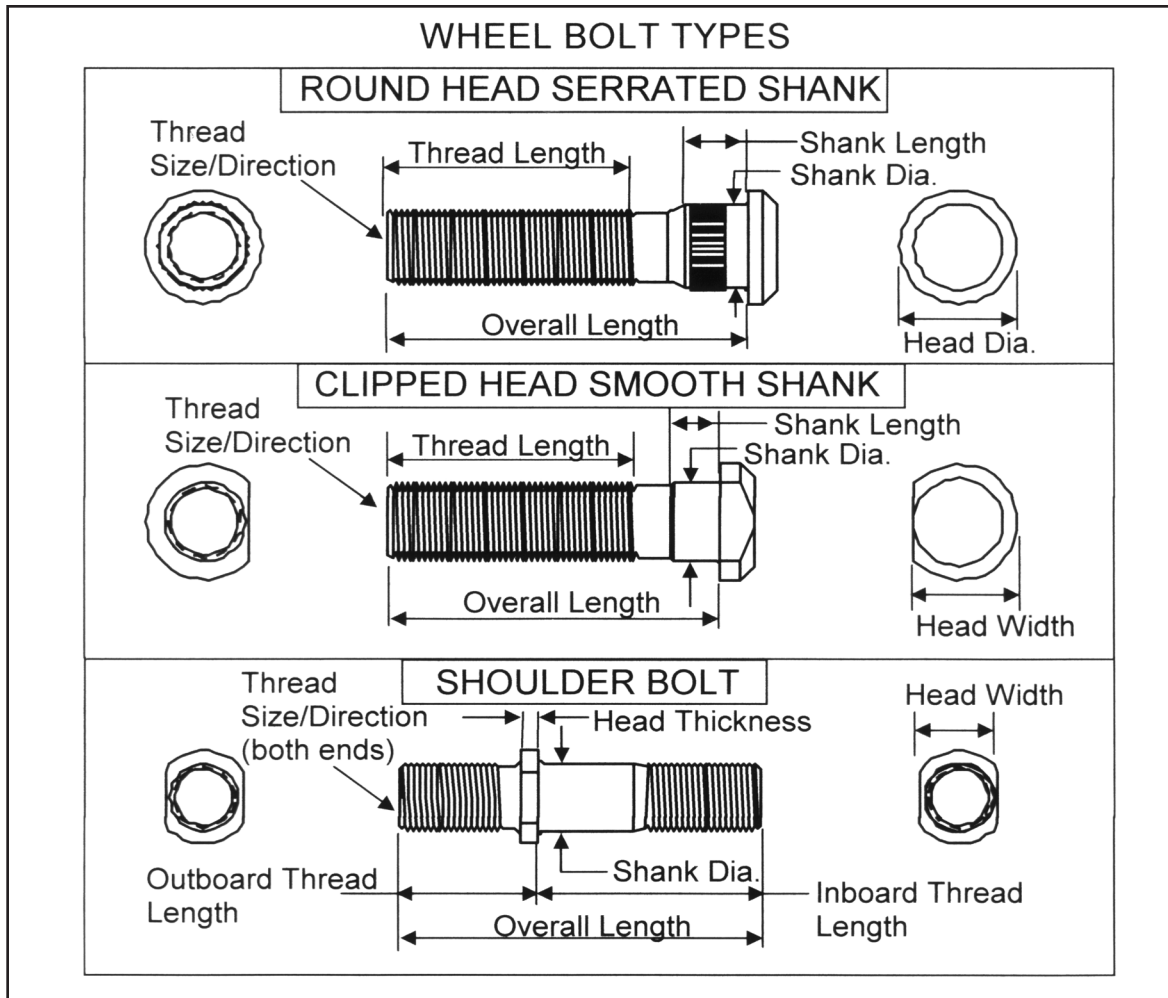

Figure 9
3. **Wheel Stud Fit**—Wheel studs are designed with a specific press-fit into the flange of the hub to prevent the wheel stud from rotational movement during the disc wheel installation or removal process. Measure the body/shank-diameter, length and serration diameter. The head style of fastener must match the original application. Make sure the replacement wheel stud matches the original fastener to maintain the designed press fit into the hub and clearance to the disc wheel and/or brake drum (see Figure 9).
There are three basic types of wheel bolts commonly used in Class 6-8 commercial hubs (see **Figure 9**):